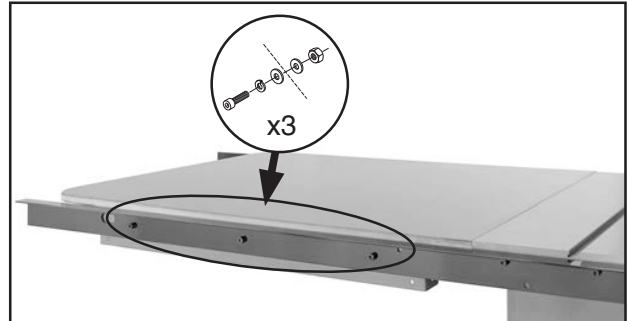

Figure 31. Rear rail/table fastener locations.
4. Fasten the rear rail to the extension table with (3) M8-1.25 x 25 cap screws, (3) 8mm lock washers, (6) 8mm flat washers, and (3) M8-1.25 hex nuts, as shown in **Figure 31**. Finger tighten the hex nuts for now.